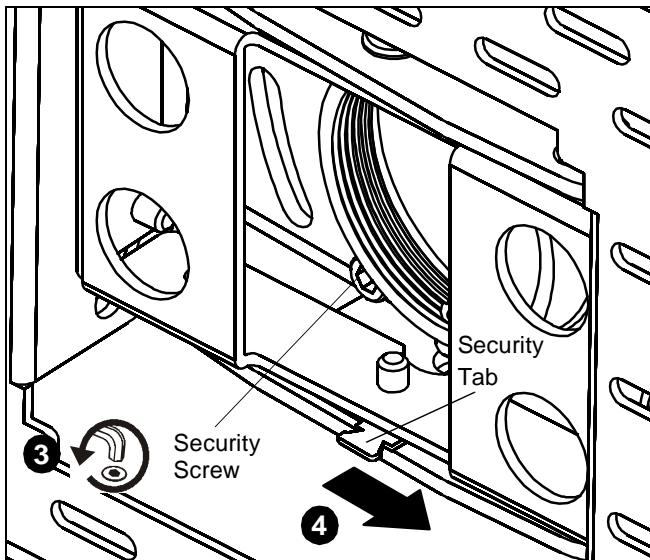

Figure 2
3. Loosen security screw one turn in bottom of MSP-CCS1 sleeve. (See Figure 2)
4. Move security tab to right. (See Figure 2)